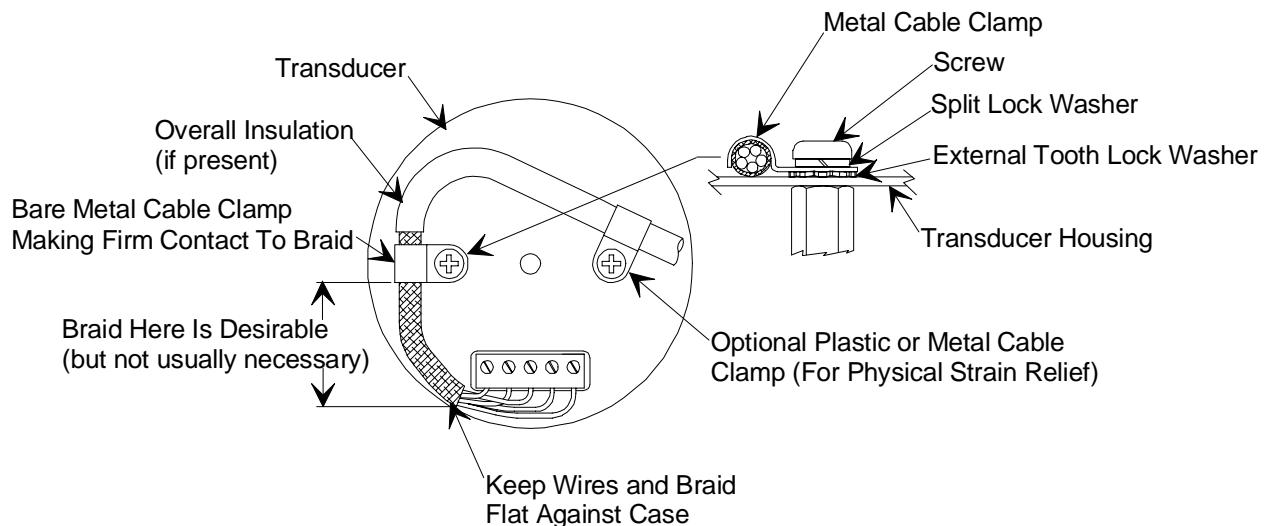

Figure 1: Preferred Method To Connect an Overall Metal Braided Shielded Cable
4. For shielded cables with flying leads at one or both ends; it is important at each such end, to ground the shield *before* the wires exit. Make this ground with absolute minimum length. Refer to Figures 1 and 2, page 22. (A $\frac{1}{4}$ inch piece of #22 wire may be undesirably long since it has approximately 5 nH of inductance, equivalent to 31 ohms at 1000 MHz). After picking up the braid's ground, keep wires and braid flat against the case. With very few exceptions, grounded metal covers are not required over terminal strips. If one is required, it will be stated in the Declaration of Conformity or in the instruction manual.